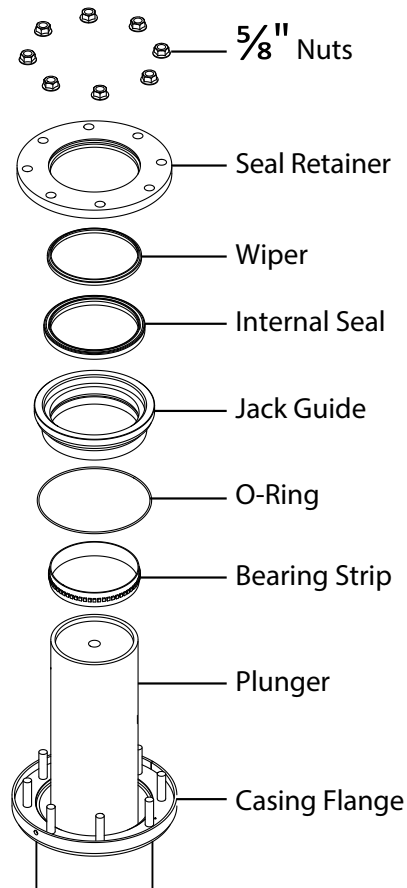

Figure 15 - Guide Assembly Sequence
-  • Position the casing flange gasket between the guide assembly and casing flange in the casing flange groove. See Figure 15.